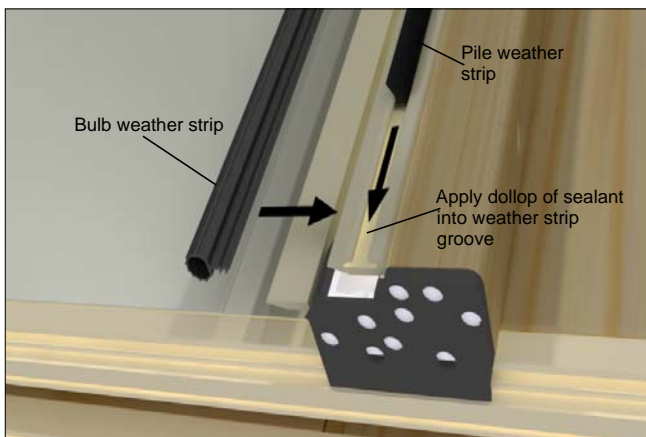

Figure 7
4. Apply a dollop of sealant to the bottom of the pile weather strip slot to secure the pile weather strip to interlock. Install pile and bulb weather strip flush with the top of the panel on the new interlock. (Remove and use from old interlock or order new.) See figure 7.